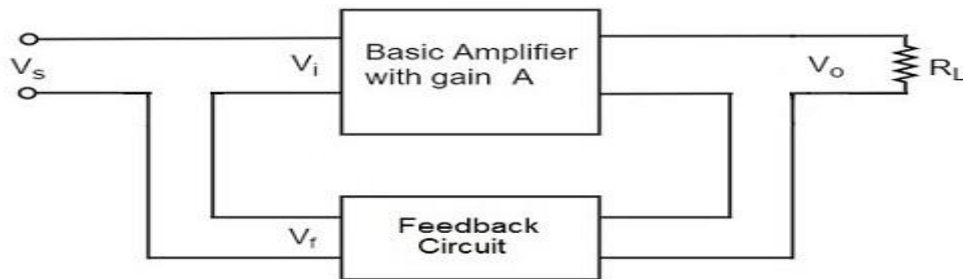

Fig 1.4.4. current series feedback circuit
- The following figure 1.4.4 shows the block diagram of current series feedback, by which it is evident that the feedback circuit is placed in series with the output and also with the input.